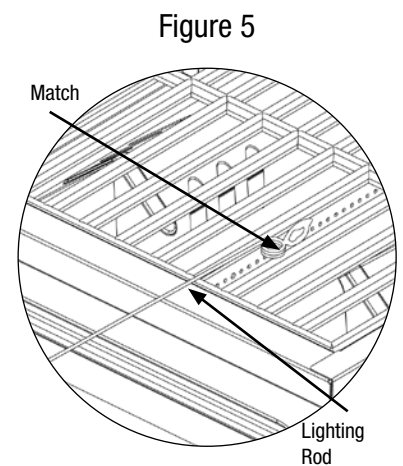

Figure 5
- If igniter does not light burner, use a lit match secured with the lighting hook (included with grill) to light burners. Access the burners through the cooking grid and heat plates. Position lit match near side of burner (Figure 5).